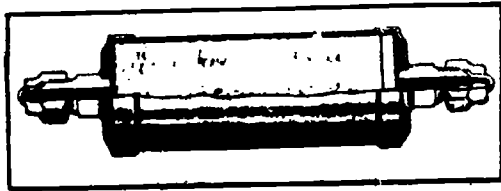
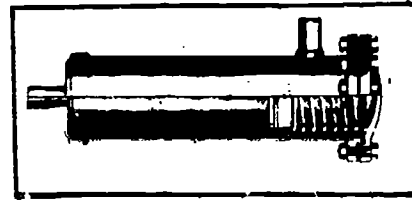

Fig 2-17. Cutaway view of a typical drier.
Fig 2-18. Reusable drier.
- (1) Construction. Driers are made of a tubular metal shell with fittings so that they can be installed in the liquid line. The shell is filled with an approved desiccant (drying agent). Strainers are placed in each end to prevent the drying agent from entering the system.
- (2) Desiccants. There are three approved desiccants for use in driers: silica-gel, activated-alumina, and drierite (calcium sulfate). Silica-gel and activated-alumina are chemicals composed of millions of tiny pores which absorb moisture as a sponge would water. Drierite absorbs moisture by chemical reaction. Silica-gel is the best of the three agents and is the desiccant usually used. It retains its form completely while the other two yield a powderlike material as a result of their action. Driers using activated-alumina or drierite must have pads in the outlet to prevent this powder from entering the system.
- (3) Direction of flow. The direction of flow through a drier is indicated by an arrow located on a side of the shell. The drier must be installed with the arrow pointing in the direction of the refrigerant flow. This prevents any of the drier filler or other foreign material from entering the system.
- (4) Recharging. There are basically two types of dehydrators, reusable and not reusable. The ones that are not reusable are charged with a desiccant, soldered, and sealed by the manufacturer and are considered not chargeable. Others have a removable, gasket-sealed end from which the desiccant can be taken out and replaced. Silica-gel and activated-alumina can be reactivated by heating them to a temperature of 250° to 300°F for several hours. This can be done by placing the drier in an oven or by passing hot air through the drier. Figure 2-17 shows a cutaway view of a typical drier used in small systems. Figure 2-18 shows a reusable-type drier.
- (5) Drier replacement. Most systems are equipped with an indicator that will show if moisture is present in it. These indicators are usually color coded and will be located either at the drier or the sight glass. Manuals for each individual system should be consulted to determine which color indicates a dry or wet system. If moisture is indicated to be in a system, the drier should be replaced. Also replace driers any time a system is opened for repair. Always be sure that the replacement drier is the same size or larger than the one already present in the system. Never replace a drier with a smaller one.